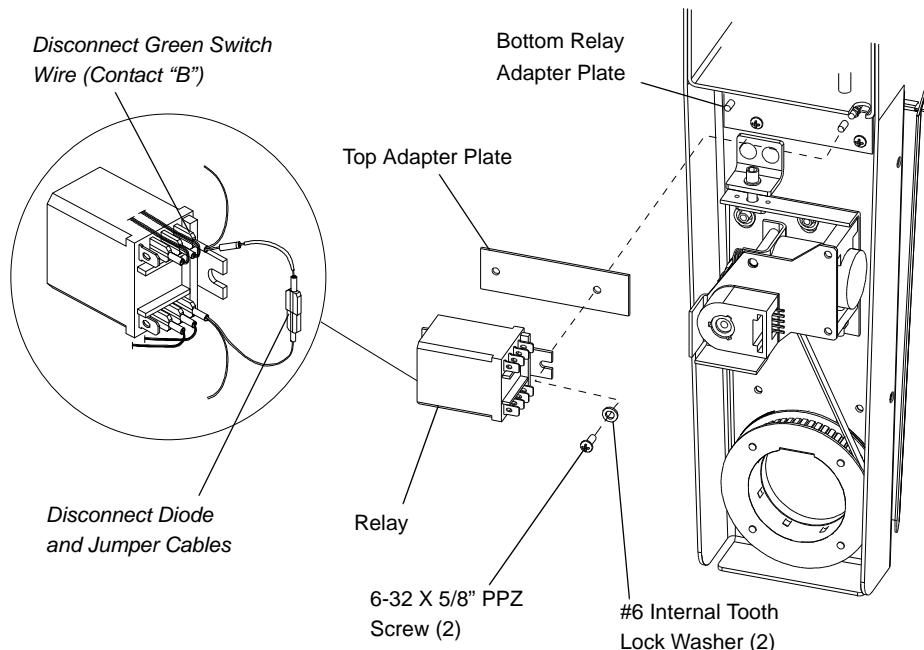

Figure 2-13: Removing Relay to Access Cables
- At relay, using #2 Phillips screwdriver, remove two 6-32 X 5/8" PPZ screws and two #6 lock washers securing relay and top relay adapter plate to bottom relay adapter plate, and remove relay and top plate. **Figure 2-13.**